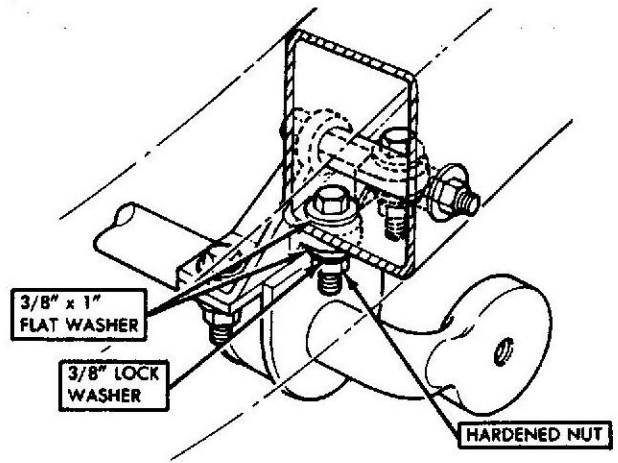

Fig. 3
(5) Place a 3/8" x 1" O.D. flat washer in spot faced area of stabilizer bar support bolt hole in bracket and slide support bracket over exposed threaded area of bolt. Use wire which was attached to shank of bolt to help pull bolt through stabilizer support bracket. Install a 3/8" lock washer and hardened nut (see Fig. 3).
(6) Tighten nut to 3 ft./lbs. (41 Newton-meters) torque.